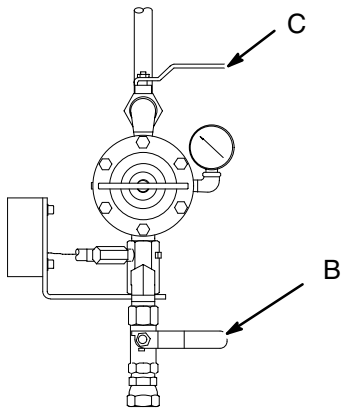

Fig. 3
1. Fig. 3. Stop the pump by closing the Pump's Bleed-type Master Air Valve closest to the motor's air inlet (C).